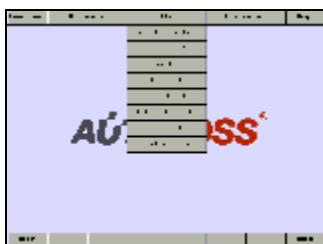

Fig.2.13
⑥ Click **Cancel Projection** under **Settings** menu to exit the PC projection mode (Fig. 2.13)